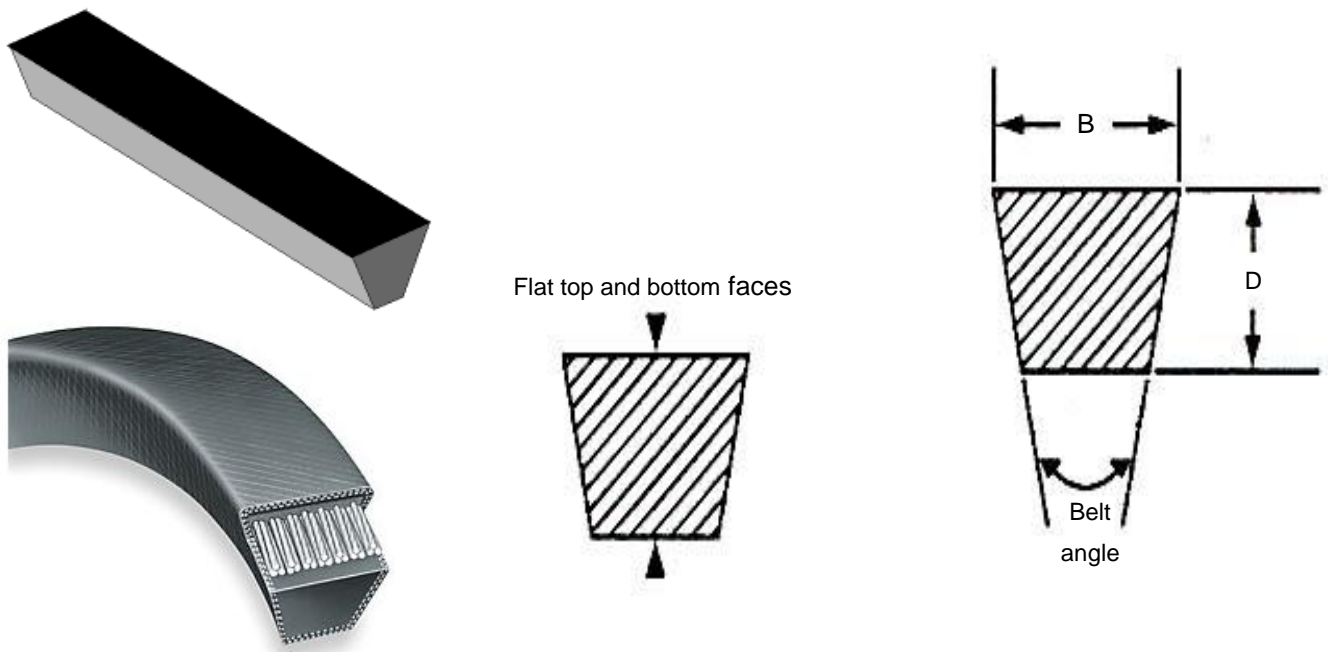

FIG 1.
- The standard type V-belt is made of rubber and fabrics, and can be identified by its cross section profile. It has a flat surface at the top and at the bottom. (Fig 1)
- The size of a standard type V-belt is given by two dimensions: Its maximum width (B) and depth or thickness (D). See Fig 1 on previous page.
- V-belts are made with the sides inclined to each other at an angle of 40°. (Refer back to Fig 1) The angle of the grooves in the pulleys generally varies slightly with the diameter of the pulley. Smaller pulleys lie at an angle slightly less than 40° to allow for the V-belt to bulge because of increased bending.